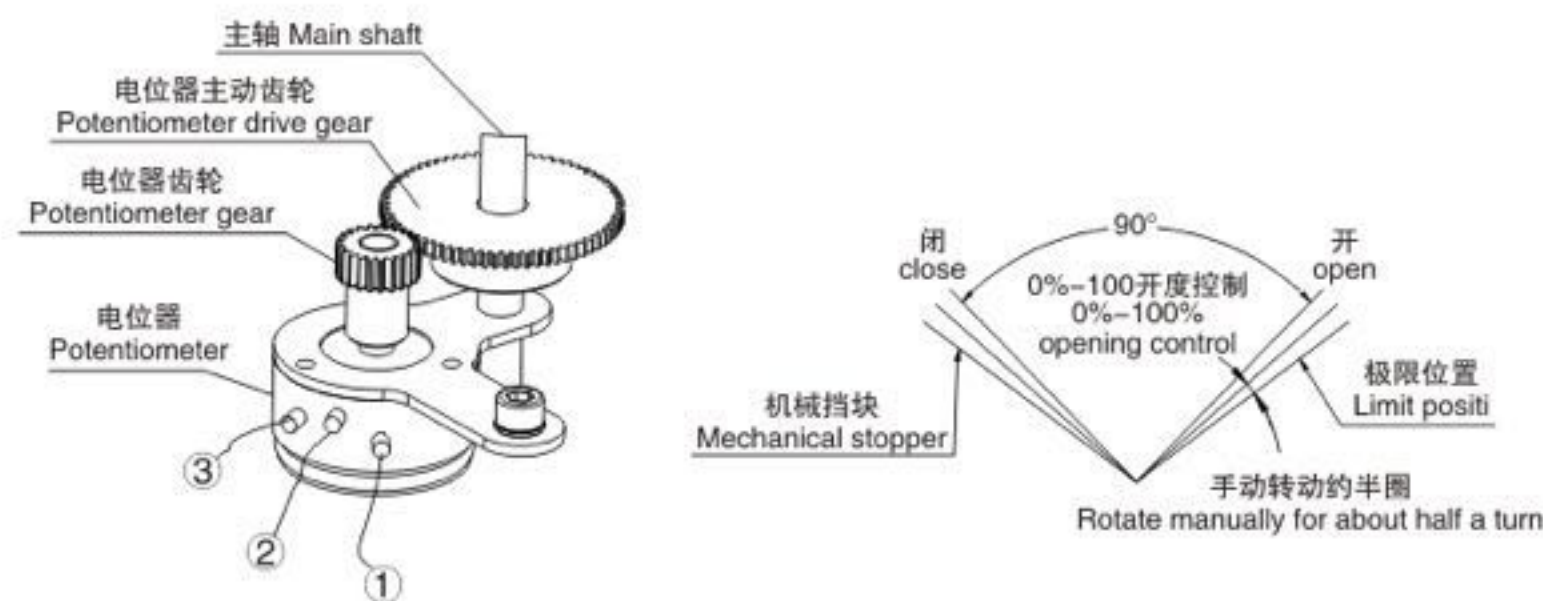

图12 Figure 12
7.3 电位器调整 (图12) Adjustment of potentiometer (Fig. 12)
电位器在执行器中作为一种反馈信号输出，有三个输出端子，其中②脚接电位器的滑臂（参照图12）。①脚接执行器开动作时，与滑臂之间的电阻不断减小一端，③脚则接执行器关闭动作时与滑臂之间的电阻不断减小一端（注意：电位器不应出现阻值过零，跳变现象）。用手轮转动阀门到全开位置，以开到限位开关动作为准用万用表测量，将接线端子上②脚①脚电阻调整到35-60之间。若不正确可通过转动电位器传动齿轮调整。
As a feedback signal output in the actuator, the potentiometer has three output terminals, of which: Terminal ② is connected to the potentiometer's sliding arm (see Fig. 12), Terminal ① to the end where the resistance to the sliding arm will decrease continually when the actuator opens, and Terminal ③ to the end where the resistance to the sliding arm will decrease continually when the actuator closes (Note: the potentiometer should have no zero resistance or